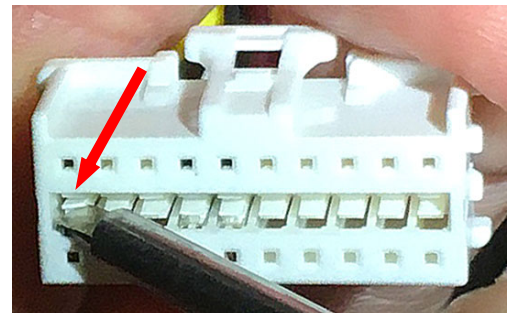

Figure 28
- e. Using a small object such as a small screwdriver or paperclip, lift the tab of pins 1 and 2 to release the pins, while gently pulling on the wires (see Figure 28).